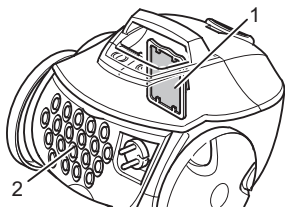

Fig.21
■ **A protective motor filter (Fig. 21/1)** prevents larger particles from destroying the motor if the dust filter bag is defective.
■ **A hygienic exhaust filter (Fig. 21/2)** filters the finest particles from the blown-out air.